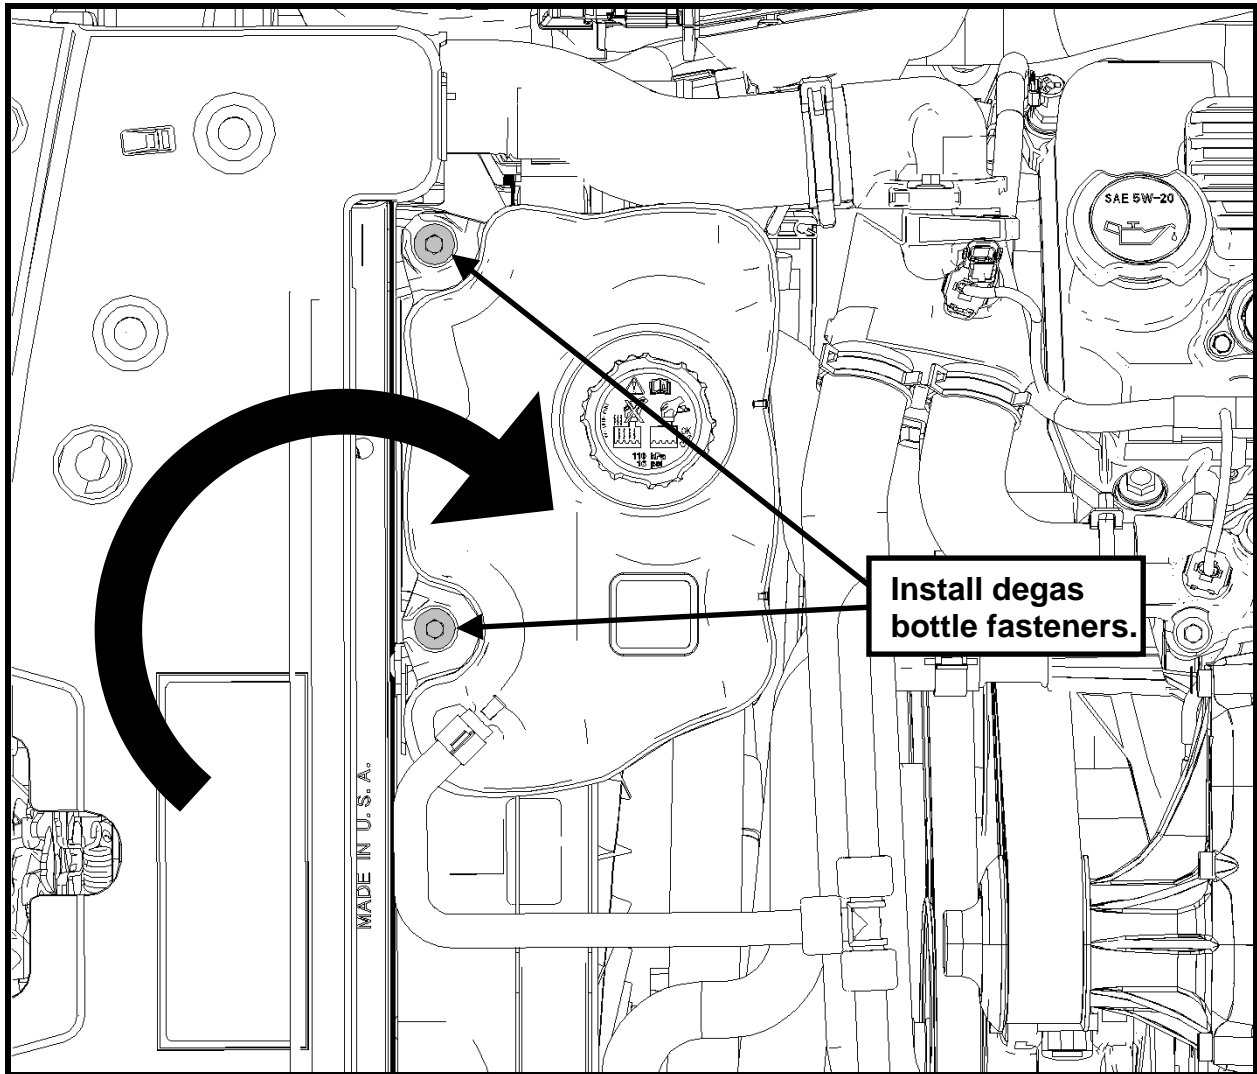

Fig. 20
**STEP 5:** Rotate the degas bottle back into place. Re-install the two fasteners used to secure the degas bottle in place and torque to 10 Nm (88 lb in) (See Fig. 20).